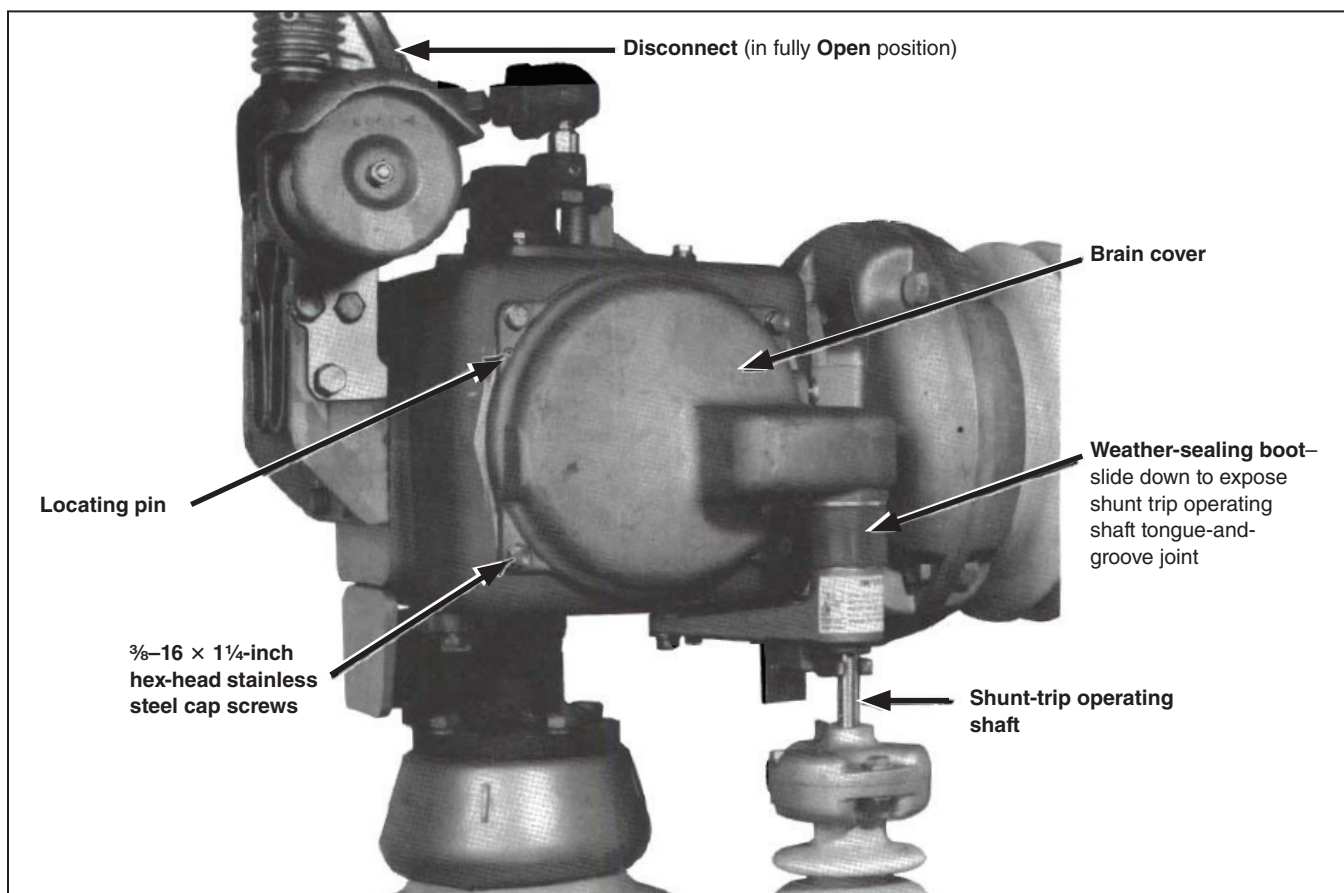

Figure 1. Removing the brain cover. Shunt-trip equipped vertical-break style circuit-switcher shown.
- STEP 3.** At the brain of the pole-unit previously disassembled, remove the four $\frac{3}{8}$ - 16 \times 1 $\frac{1}{4}$ -inch hex-head stainless steel cap screws (two of that are special shoulder bolts) from the brain cover. See Figure 1. Retain the screws.
To prevent serious injury to hands resulting from inadvertent tripping of the brain, do not make an interrupting rod-arm measurement unless the disconnect is at or near its fully **Open** position, as shown in Figure 1 on page 6.
To prevent serious injury to hands resulting from inadvertent tripping of the brain, do not make a main rod-arm measurement unless the disconnect is at or near its fully **Open** position, as shown in Figure 1 on page 6.